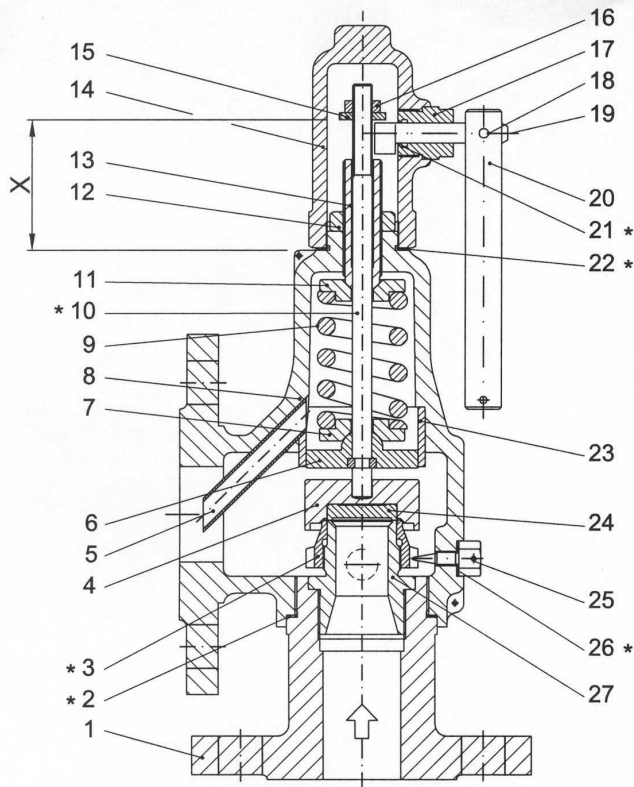

Fig.3 - CS 31 type valve ( With lever )
- Flanged with lever (Fig.3) or without lever (Fig.4);